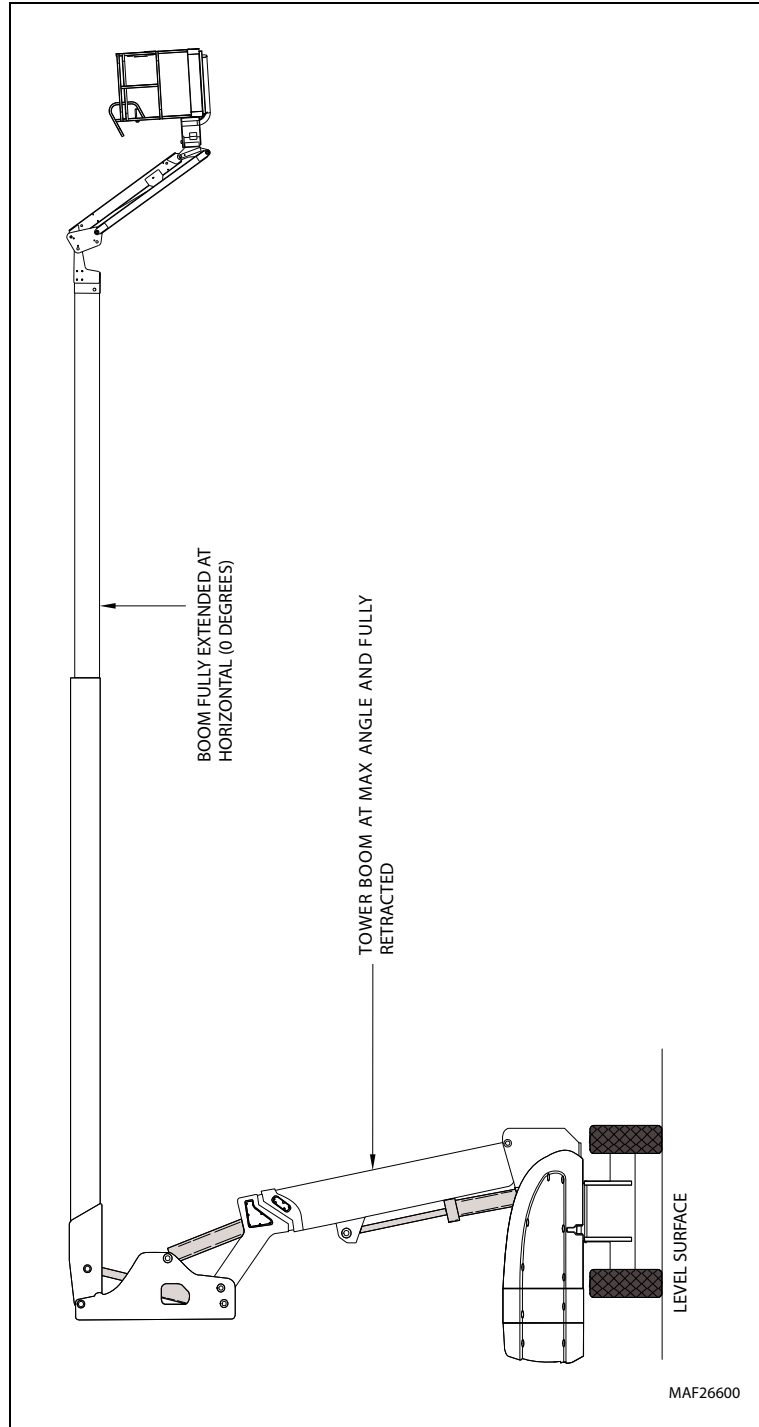
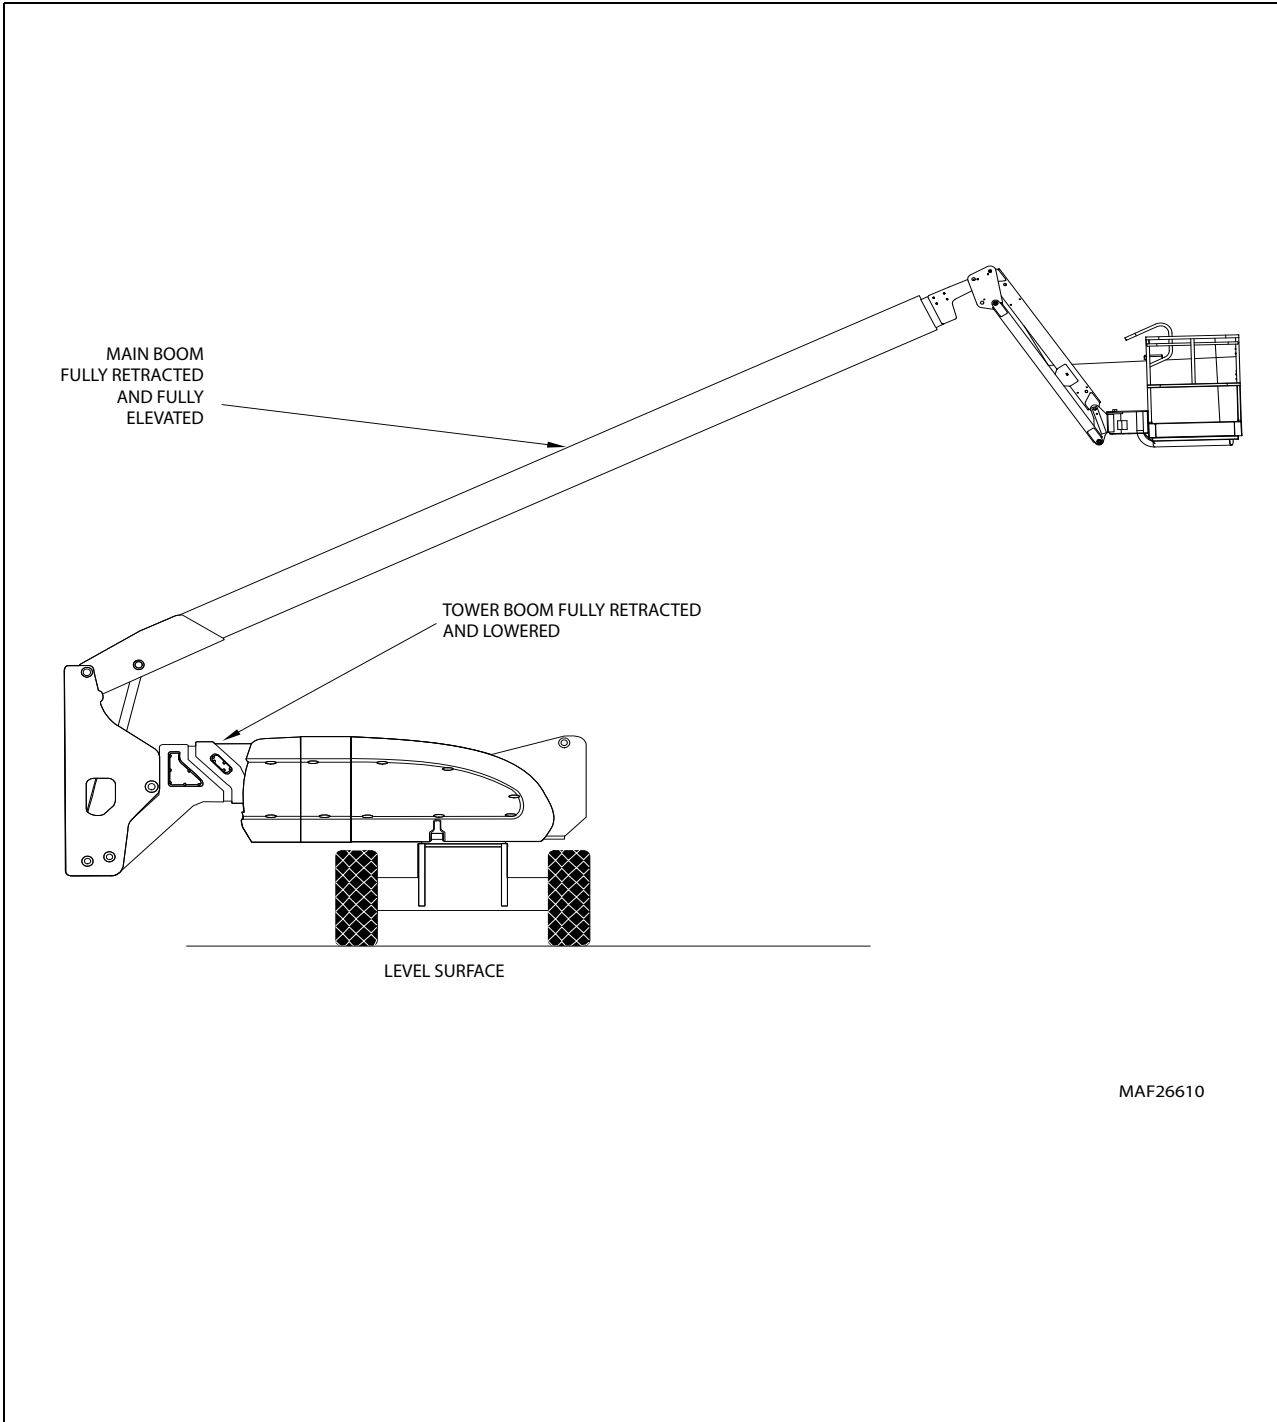
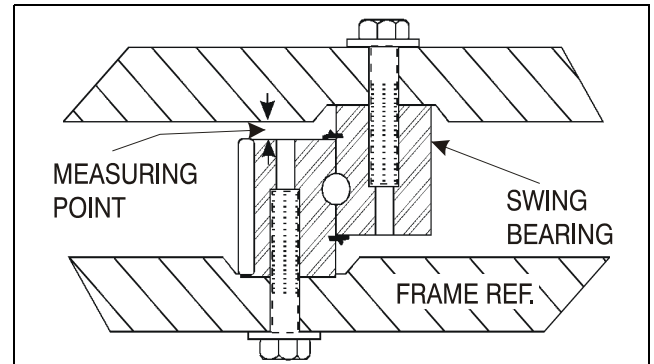

Figure 3-60. Swing Bearing Tolerance Boom Placement - Sheet 1 of 2
Figure 3-61. Swing Bearing Tolerance Boom Placement - Sheet 2 of 2
Figure 3-63. Swing Bearing Tolerance Measuring Point
- a. Elevate the fully extended main boom to horizontal. (See Figure 3-60.)
- a. Elevate the fully retracted main boom to full elevation. (See Figure 3-61.)
1. From the underside of the machine, at rear center, with the main boom fully elevated and fully retracted, and tower boom stowed, as shown in Figure 3-60., Swing Bearing Tolerance Boom Placement - Sheet 1 of 2, using a magnetic base dial indicator, measure and record the distance between the swing bearing and turntable. See Figure 3-63., Swing Bearing Tolerance Measuring Point
2. At the same point, with the main boom at horizontal and fully extended, and the tower boom fully elevated and fully retracted as shown in Figure 3-61., Swing Bearing Tolerance Boom Placement - Sheet 2 of 2. Using a magnetic base dial indicator, measure and record the distance between the swing bearing and turntable. See Figure 3-63., Swing Bearing Tolerance Measuring Point